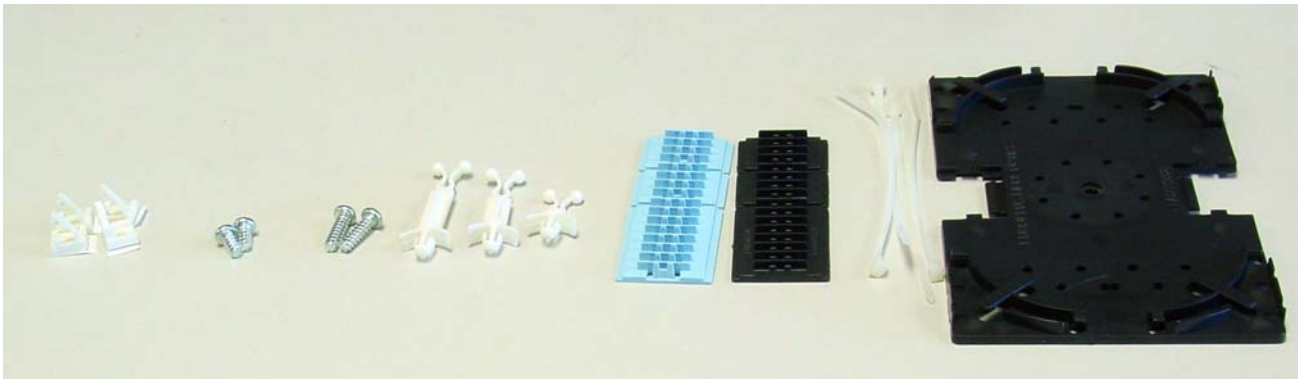

Figure 3. Parts for Accessory Kit (Also includes this Installation Guide)
- ❑ Second Accessory Kit that includes the following. (Refer to Figure 3.)